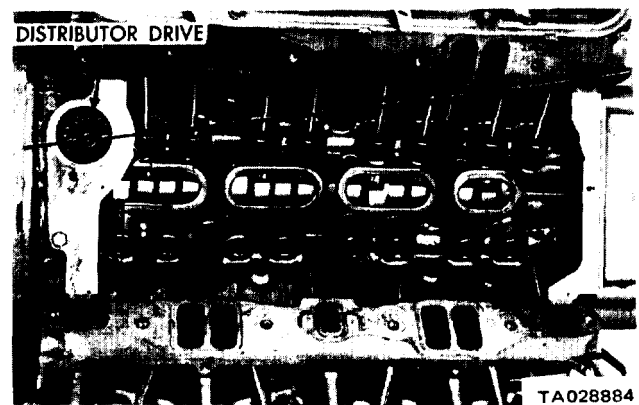

Figure 3-11. Position of Distributor Drive Gear,
(1) Be sure the mating surfaces are clean and free from burrs.
(2) Using a new gasket, install the chain case cover to avoid damaging the oil pan gasket. First, tighten the chain case cover capscrews to 30 ft-lbs. Then tighten the oil pan capscrews to 17 ft-lbs.
(3) Lubricate the seal lip. Position the vibration damper hub slot on the key in the crankshaft, and slide it on the crankshaft.
(4) Tap the vibration damper on the crankshaft. Then install the retainer bolt with a washer and tighten it to 135 ft-lbs.
(5) Position the pulley on the vibration damper and attach it with bolts and lockwashers. Tighten to 17 ft-lbs.
(6) Install the fuel pump and fuel lines.
(7) Install the water pump and housing assembly, using new gaskets. Tighten bolts to 30 ft-lbs.
(8) Install the radiator, fan and belt, and hoses. Close the drains.
(9) Fill the cooling system.
(10) With the timing indicator on "O," install the distributor drive gear with the slot pointing to the first intake manifold bolt on the left side of the engine (figure 3-11).
(11) Reconnect the battery ground cable,